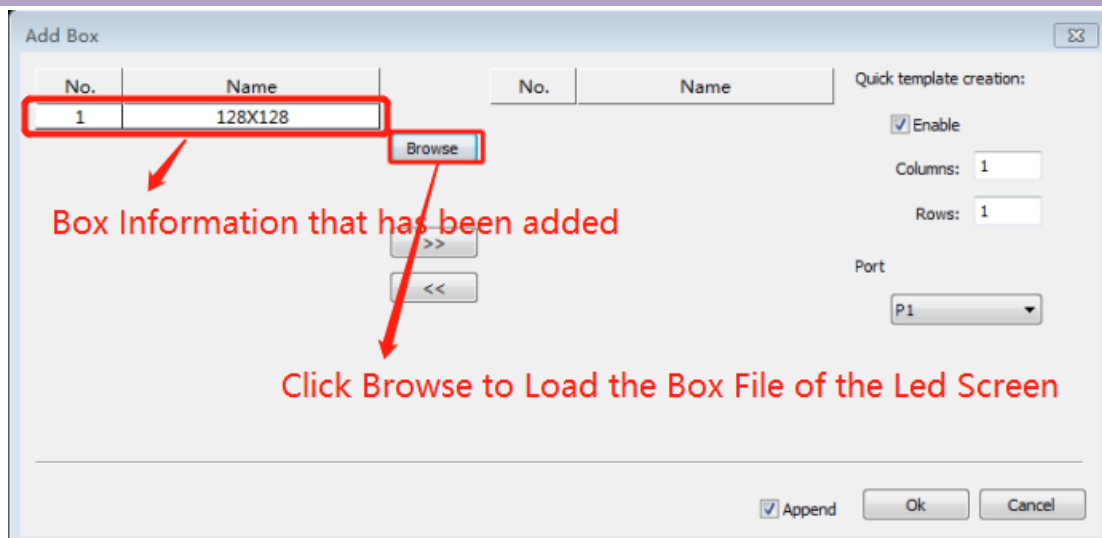

Figure 4-3-2 Add Box Configuration Files
(2) Add Box (Cabinet) File: When the screen to be debugged is composed of multiple types of Boxes(cabinets) (box size, chip type, module design, etc.), click to select the first loading method “ General” to enter the “add box” interface, and click “Browse” on this interface to load the box (cabinet) configuration file, as shown in Figure 4-3-2.